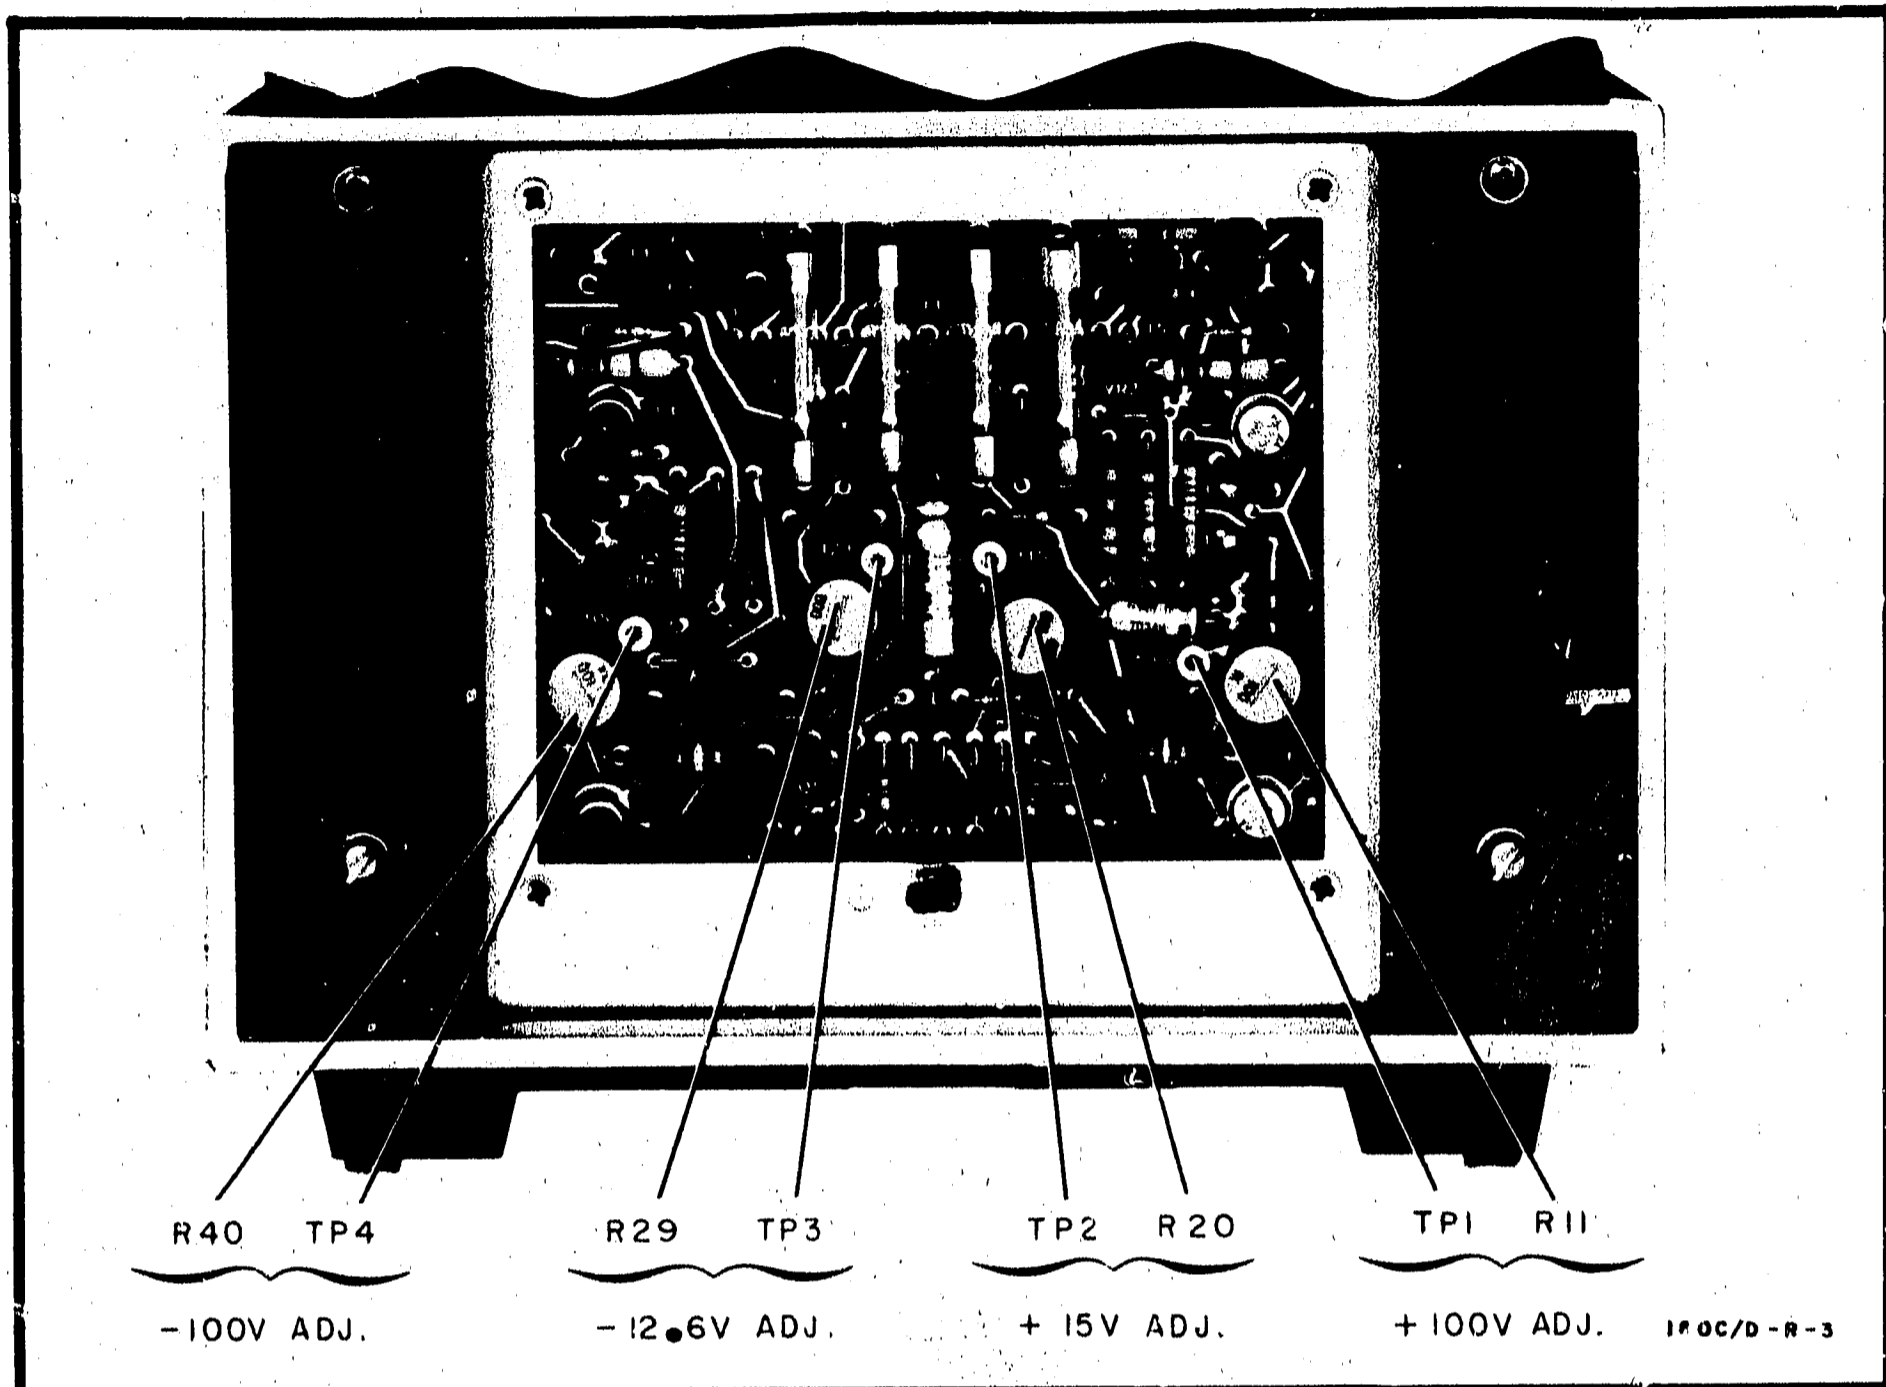

Figure 5-5. Low Voltage Power Supply Adjustments
- a. Connect digital voltmeter to +100V test point A1A2TP1 (figure 5-5).